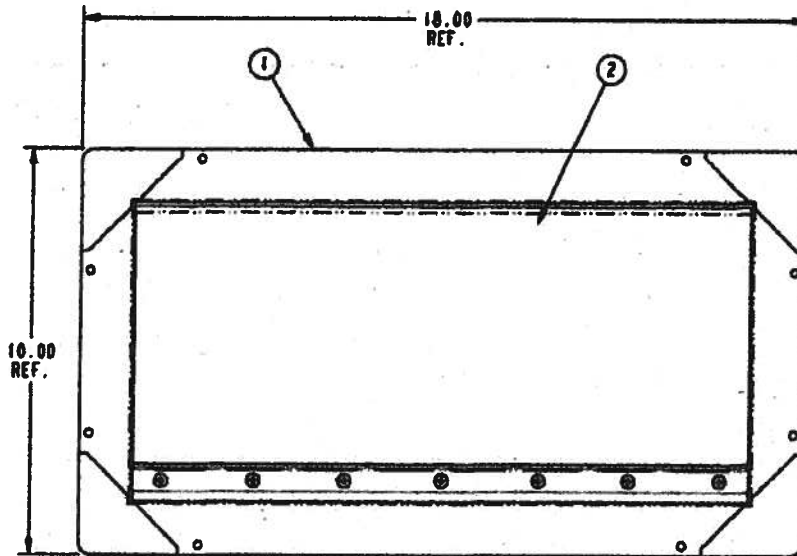
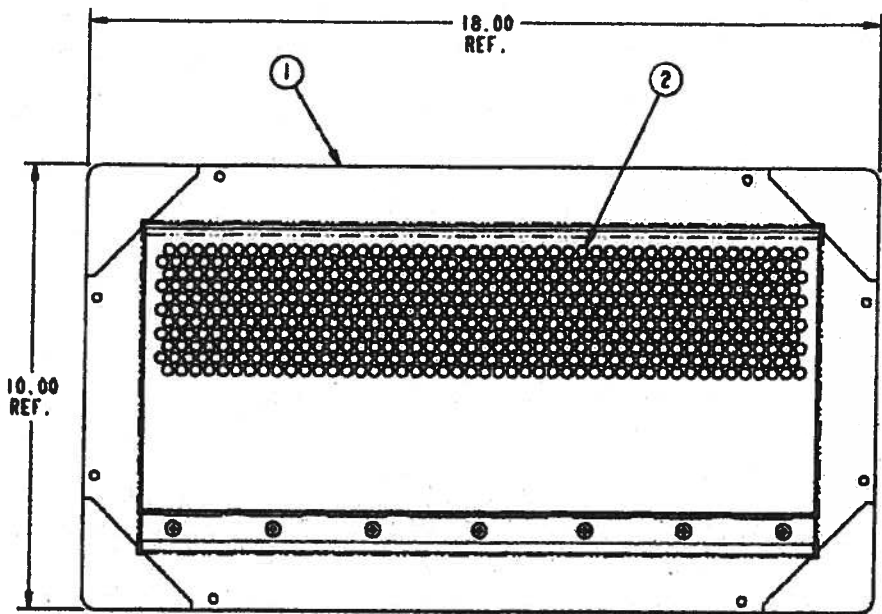
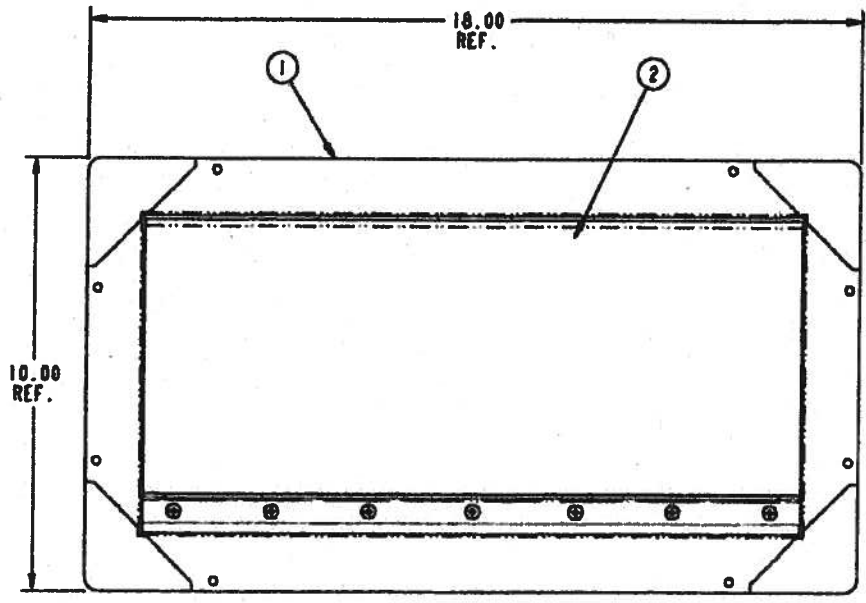
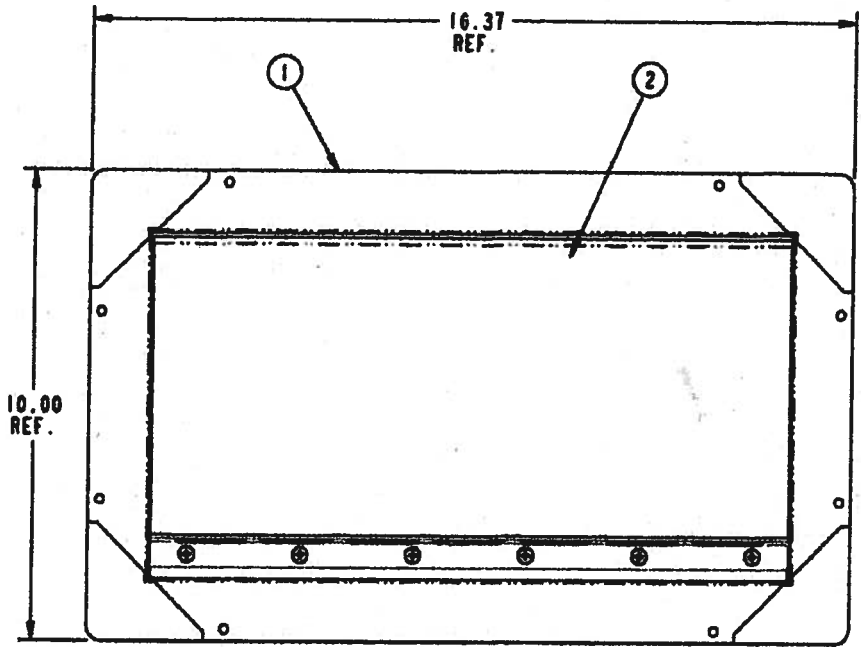

FIGURE 1 – FOSS Flood Vent
FIGURE 2 – FASS Flood Vent
FIGURE 3 – FOAL Flood Vent
FIGURE 5 – ROAL Flood Vent
3.3. Model Sizes: Models FOSS, a stainless steel flood vent with no ventilation, measures 18 inches wide by 10 inches high (See Figure 1). Model FASS, a stainless steel flood vent with ventilation, measures 18 inches wide by 10 inches high (See Figure 2). Model FOAL, an aluminum flood vent with no ventilation, measures 18 inches wide by 10 inches high (See Figure 3). Model FAAL, an aluminum flood vent with ventilation, measures 18 inches wide by 10 inch high (See Figure 4). Model ROAL, an aluminum flood vent used for retrofitting with no ventilation, measures 18.37 inches wide by 10 inches high (See Figure 5).